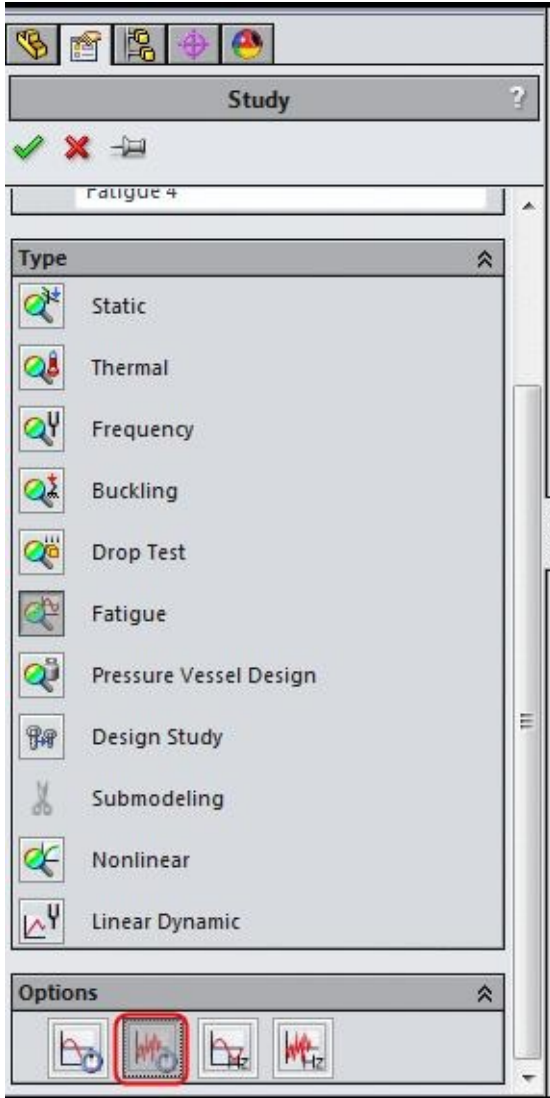

Figure-2. Variable amplitude history data button
- Click on the **Fatigue** button from the list and then click on the **Variable amplitude history data** button from the **Options** rollout of the **PropertyManager**; refer to Figure-2.